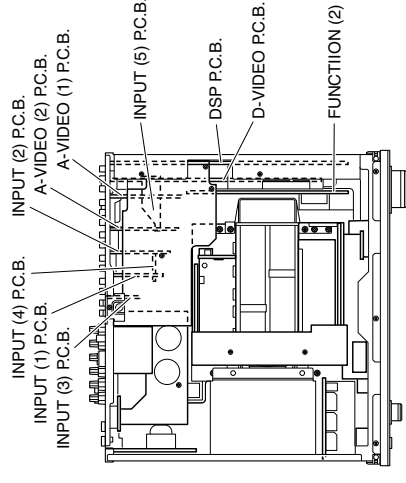
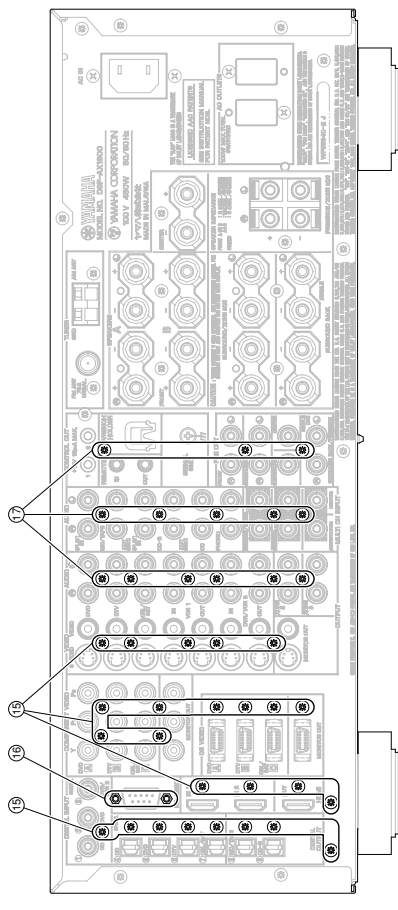

Fig. 4
Fig. 5
- c. Remove 21 screws (15) and 2 jack screws (16). (Fig. 5)
- e. Remove the DSP, FUNCTION (2), INPUT (5), D-VIDEO, A-VIDEO (1) and (2) P.C.B.s. (Fig. 4)
6. **Removal of INPUT (1) ~ (4) P.C.B.s**
- a. Remove 14 screws (17). (Fig. 5)
- c. Remove the INPUT (1) ~ (4) P.C.B.s. (Fig. 4)